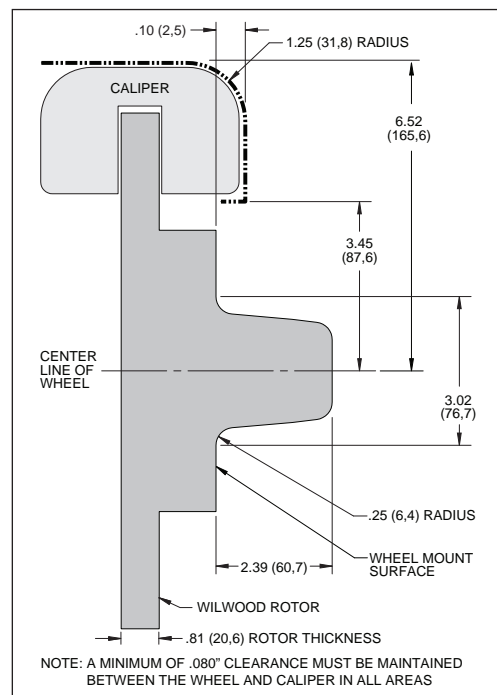

Figure 3. Wheel Clearance Diagram
- Review the Wheel Clearance Diagram (Figure 3, page 4) to verify that there is adequate clearance with the wheels you will be using with the installation.
- Verify wheel clearance using Figure 3.
- WARNING:** The wheel contact surfaces must seat completely on the face of the hub. If any contact surfaces overhang the outside diameter of the hub face, a 6.60" diameter x .20" thick steel spacer (item 24, Wilwood P/N 300-11961) MUST be used between the wheel and the hub.